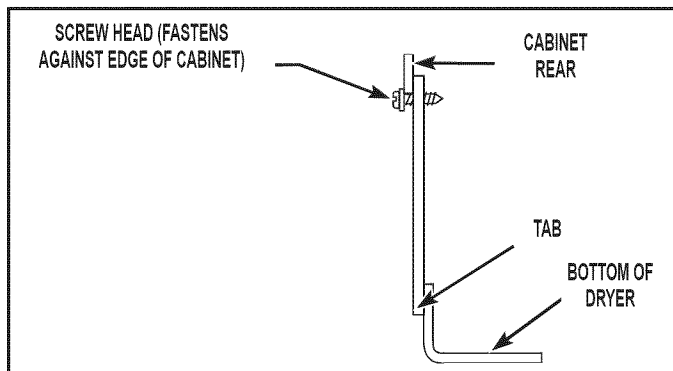

FIGURE 21
23. Use screw included with kit to secure plate in position by driving the retaining screw into the plate's smaller hole to lock the plate in position as shown in *Figure 21*.